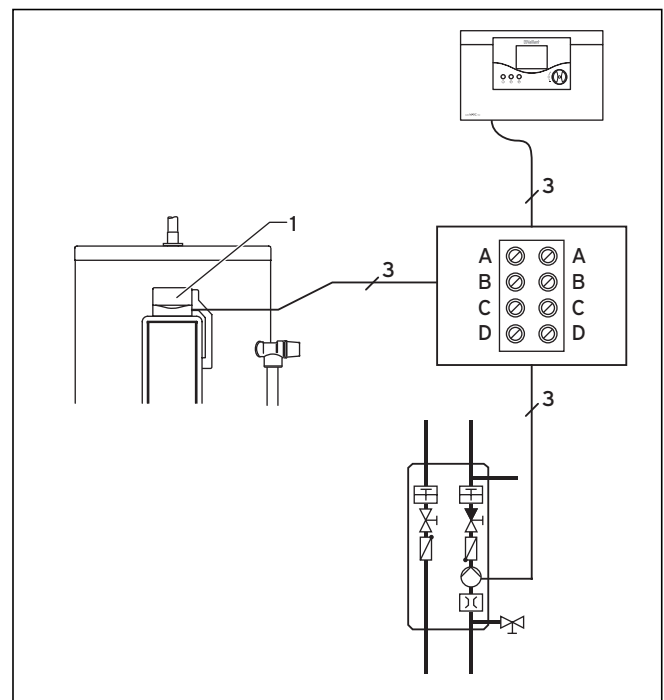

Fig. 5.36 Connection diagram of the solar pump TCO
- Connection of the solar pump to the solar control via its own thermal cut out (see Fig. 5.36)
- Push one of the VR 10 temperature sensors (1) supplied with the solar control in an immersion sleeve where there is still room, as illustrated in Fig. 5.36.
- Push a VR 10 temperature sensor (3) in the immersion sleeve for the bottom cylinder area.
- Attach the temperature sensor for the gain (2) to the return pipe of the solar circuit nearby the solar cylinder.